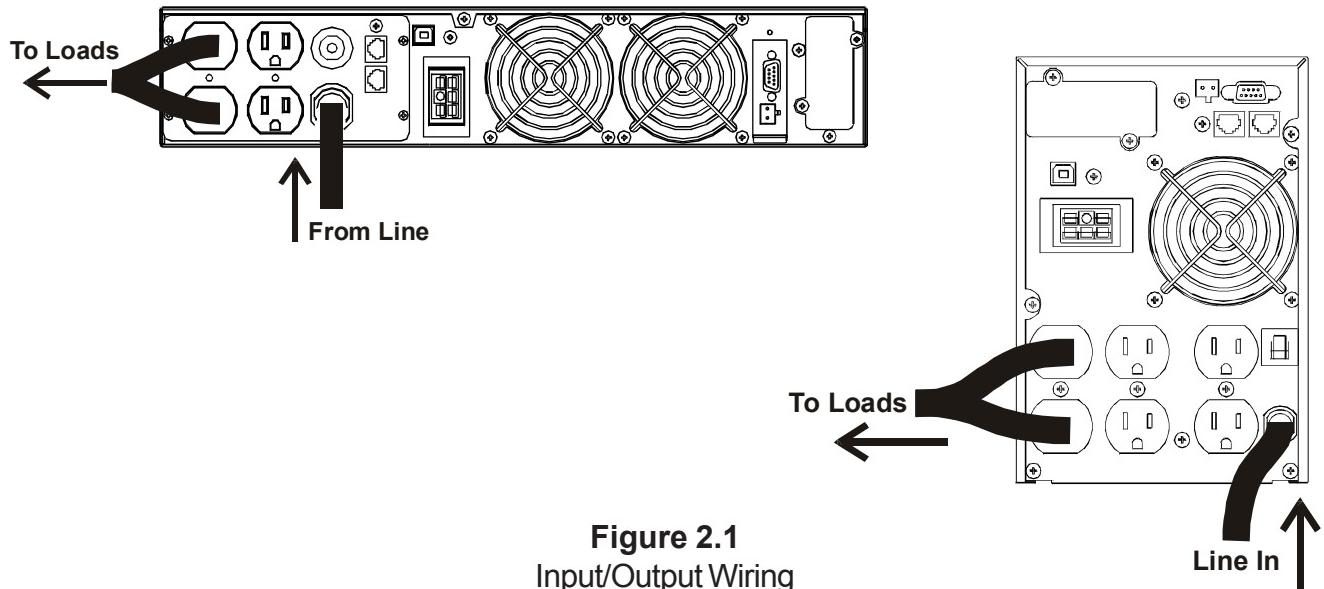

Figure 2.1
- 1** Connect the load(s) to the unit's output connector(s) (Figure 2.1).